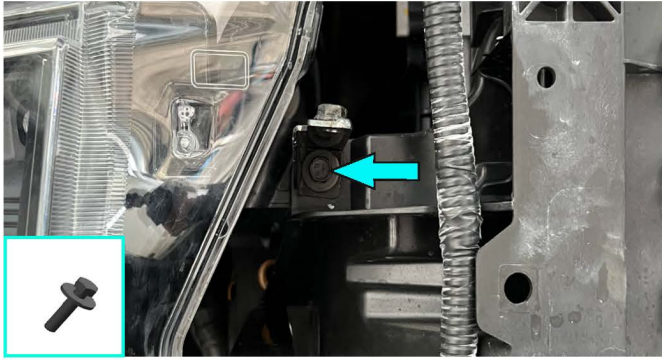

Fig.30
30. Install brackets for light and grille plug (item 5) as shown in fig. 30. Fix using bolts M6x20 and washers 6 (item C, H).